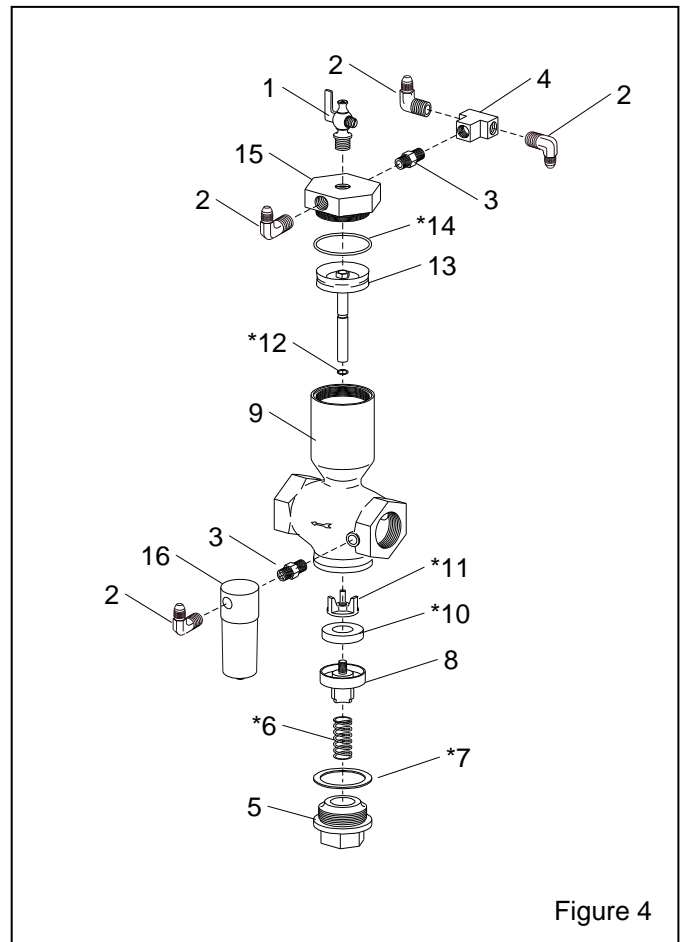

Figure 4
6.4 Inlet Valve, CA/CAD Cycle Timer, Figure 4